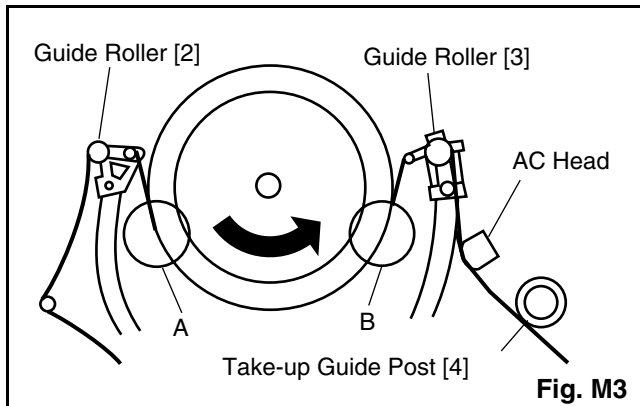

Fig. M3
1. Playback a blank cassette tape and check to see that the tape runs without creasing at Guide Rollers [2] and [3], and at points A and B on the lead surface. (Refer to Fig. M3 and M4.)
2. If creasing is apparent, align the height of the guide rollers by turning the top of Guide Rollers [2] and [3] with a Guide Roller Adj. Screwdriver. (Refer to Fig. M3 and M5.)
3. Check to see that the tape runs without creasing at Take-up Guide Post [4] or without snaking between Guide Roller [3] and AC Head. (Fig. M3 and M5)
- Playback the Gray Scale on the Alignment Tape (MH-1). Set the Tracking Control Circuit to the center position by pressing CH UP button and then "PLAY" button on the unit. Adjust the height of Guide Rollers [2] and [3] (Fig. M3, Page 4-6) watching the oscilloscope display so that the envelope becomes as flat as possible. To do this adjustment, turn the top of the Guide Roller with the Guide Roller Adj. Screwdriver.
- If the envelope is as shown in Fig. M7, adjust the height of Guide Roller [2] (Refer to Fig. M3) so that the waveform looks like the one shown in Fig. M9.
- If the envelope is as shown in Fig. M8, adjust the height of Guide Roller [3] (Refer to Fig. M3) so that the waveform looks like the one shown in Fig. M9.
- When Guide Rollers [2] and [3] (Refer to Fig.M3) are aligned properly, there is no envelope drop either at the beginning or end of track as shown in Fig. M9.
Note: Upon completion of the adjustment of Guide Rollers [2] and [3] (Refer to Fig. M3), check the X Value by pushing the CH UP or DOWN buttons alternately, to check the symmetry of the envelope. Check the number of pushes to ensure center position. The number of pushes CH UP button to achieve 1/2 level of envelope should match the number of pushes CH DOWN button from center. If required, redo the "X Value Alignment."